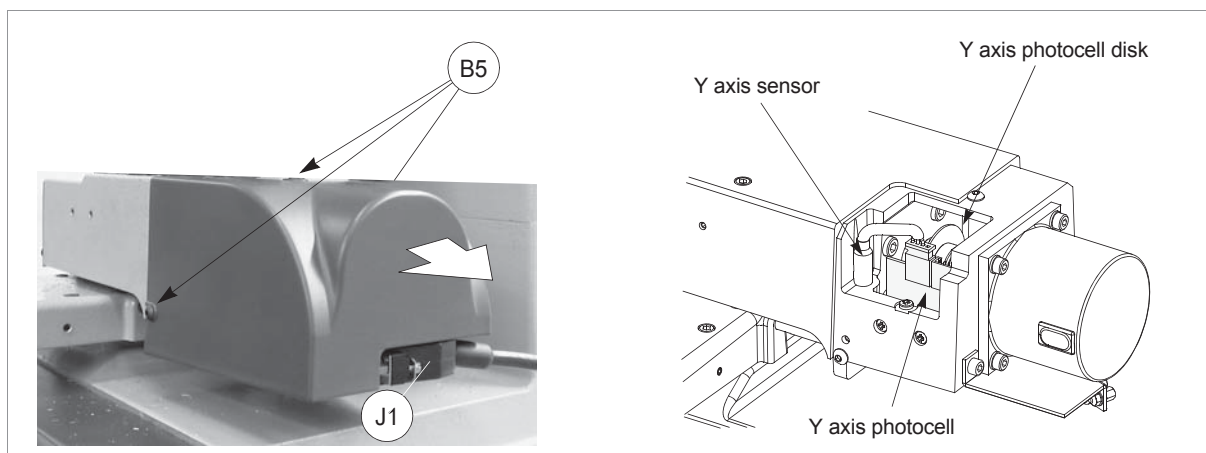

Fig. 116
- 5) disconnect the (J1) Y axis cable from the carriage (fig. 116).
- 6) unscrew the 3 (B5) fixing screws and remove the Y axis protective cover by pulling it in the direction shown in fig. 116.
- 8) plug the Y axis (J1) cable (fig. 116) and the machine's power supply cable back into place.